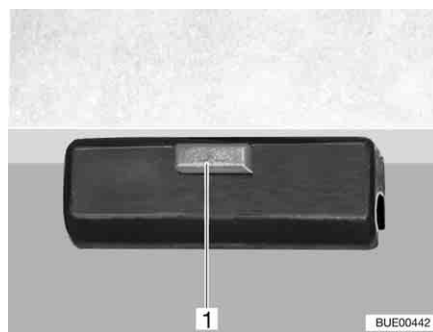

Fig. 106 Lock
- Release the lock (Fig. 106,1) on the table top.